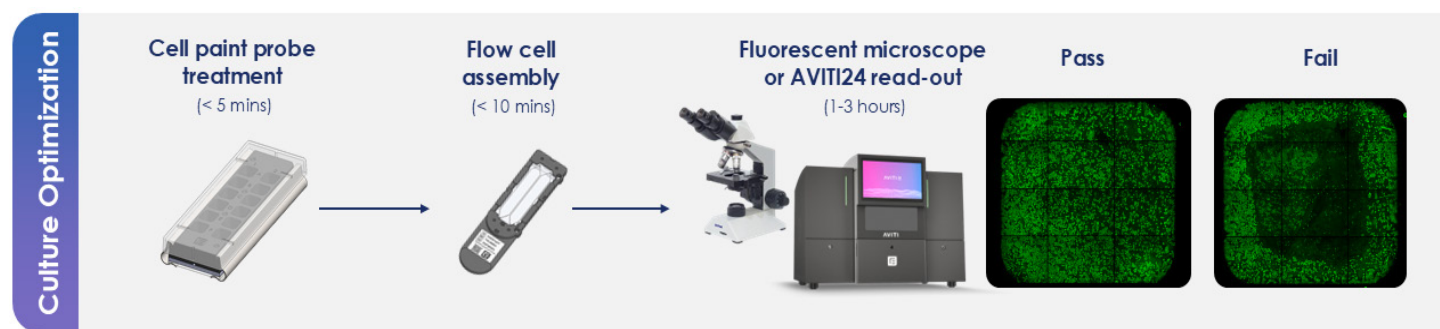

Figure 1b. Sample prep assessment using Teton Onboard Cell Paint Imaging Kit or Teton Cell Paint Probe Kit.
- For Teton Cell Paint Probe Kit, disassemble the slide kit and assemble the sample slide for viewing on a fluorescent microscope (Figure 1b).
- For Teton Onboard Cell Paint Imaging Kit, assemble the Teton flow cell, load the Teton Custom Screen Cartridge and the assembled flow cell onto an AVITI24 System. Initiate the cell culture optimization run and analyze results in 3 hours (Figure 1b).